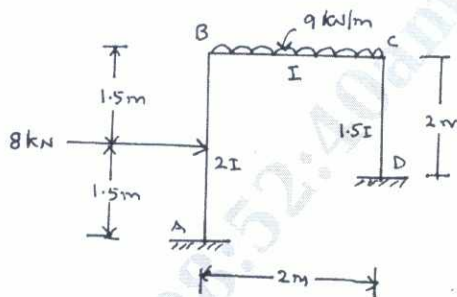

Fig. Q4
- 4 Analyze the portal frame loaded as shown in Fig. Q4 by slope deflection method. Draw BMD. (20 Marks)